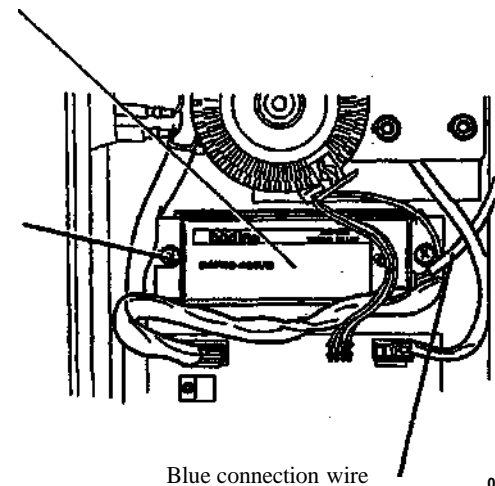

Figure 5. Removing the Lamp Ballast Assembly
7. (Figure 5): Remove the Lamp Ballast Assembly.